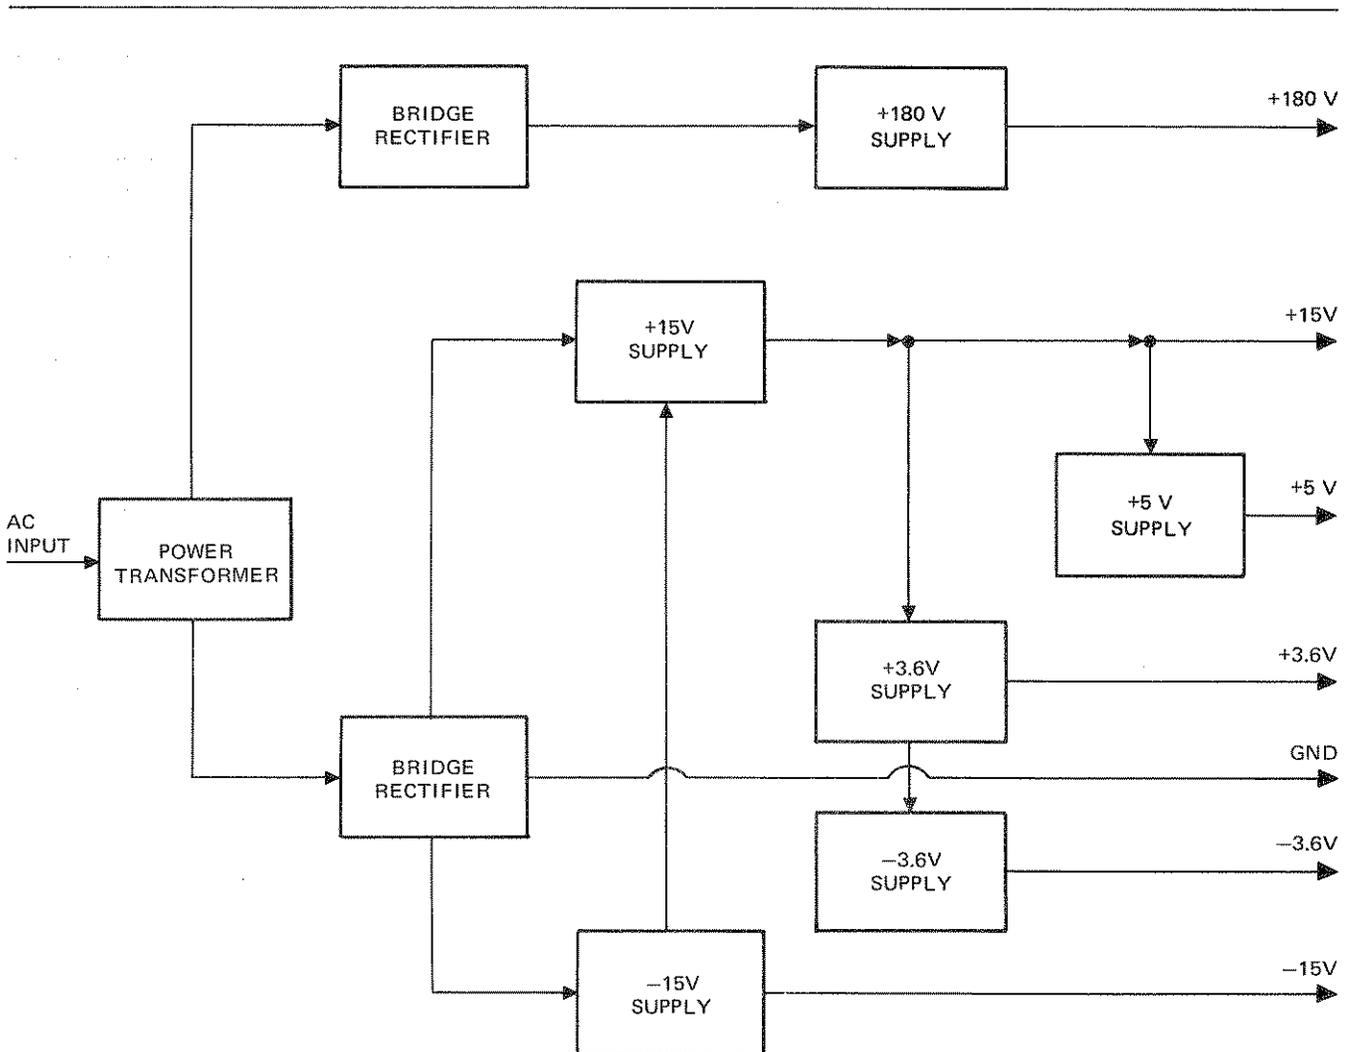

Figure 3-7. DC Power Supplies, Functional Block Diagram
3.2.4 DC Power Supplies (Figure 3-7)